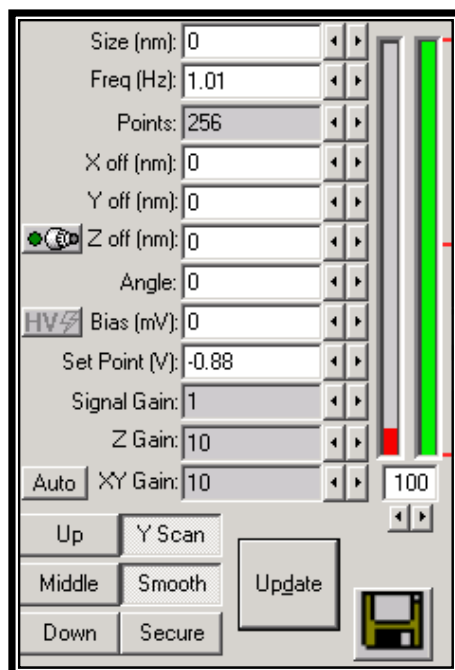
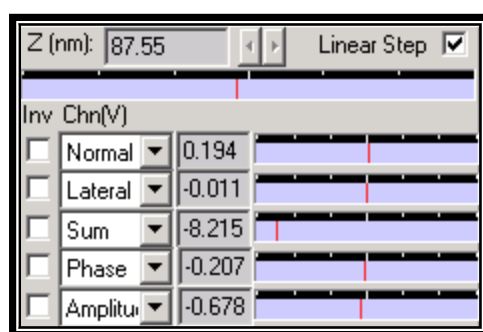
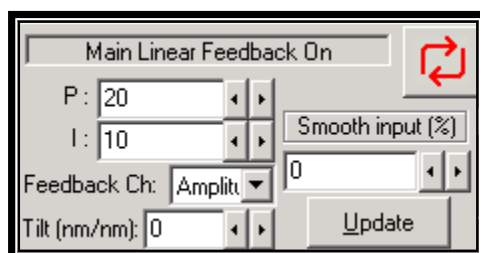

Fig. 4.27
Fig. 4.29
Fig. 4.30
14. In the Control Menu (see Fig. 4.27. This menu is usually already opened, button ) , insert the scanning Frequency (Freq (Hz)) and the Number of Points in one scan line.
Wait a few seconds to give time for the system to change into Dynamic Mode, and press Update in the Control Menu. Then the values of the different channels will be updated in the Channels Values Menu. This menu is usually already opened. If not, you can see it by pressing  (see Fig. 4.29).
- The Set Point value in the Control Menu (Fig. 4.27) will be used by the feedback system to control the tip-sample distance. In Dynamic Mode, the feedback channel is the Amplitude of the cantilever oscillation, CH15 (you can see it in the Feedback Menu, Fig. 4.30). The system keeps it constant, by comparing the Set Point value with the value from CH15 (you can see it in the Channels Values Menu, Fig. 4.29), changing the tip-sample distance to keep the Amplitude constant.
To set an initial value for the Set Point, before approaching, check the Amplitude value (channel 15, CH15) in the Channels Values Menu (see Fig. 4.29).
16. In the Feedback Menu (see Fig. 4.30. This menu is usually already opened, button ). Insert feedback parameters P and I (Proportional-Integral). As a general rule, **take P = 20 and I = 10 as initial values.**
To do it by software, take a look to the Z values, on the top of the Channels Values Menu (see Fig. 4.29). This value is telling you the Z off in nm. Just add that number to your Z off and the green bar will be centered. As a general rule, anytime you want to center it, add the value you see in the Channels Values Menu to the current value placed in the Zoff dialog.
The Set Point value will be used by the feedback system to control the tip-sample distance. In Contact Mode, the feedback channel is the Normal Force, CH1 (you can see it in the Feedback Menu, Fig. 4.30). The system keeps it constant, comparing the Set Point value with the Normal Force value from CH1 (you can see it in the Channels Values Menu, Fig. 4.29), changing the tip-sample distance to keep the Normal Force constant.
To set an initial value for the Set Point, before approaching, check the Normal Force value (channel 1, CH1) in the Channels Values Menu (see Fig. 4.29). Since you have tuned the photodiode in the Photodiode Menu, making the red and the green crosses coincide, the Normal Force and the Lateral Force should be  $\approx$  0. Place the **initial Set Point around 0.2-0.4 V**, as shown in the next figure:
You can see the values of the different channels in the Channels Values Menu (see Fig. 4.29).
If the piezo is fully-retracted (check the vertical green bar shown in the Control Menu and in the Approach Menu, this represents the Z-piezo displacement. If the piezo is fully retracted, there will be no green bar. Also there will be no evident variations in the Fwd/Bck traces), check the Normal Force value (CH1) in the Channels Values Menu (see Fig. 4.29). You should find that the CH1 value is higher than the Set Point, which is why the piezo has retracted. You must enter a Set Point a bit higher than the CH1 value (for example, if  $CH1 = 0.6 \text{ V}$ , you could enter  $\approx 0.65\text{-}0.70 \text{ V}$ ). The piezo will extend and you the situation will be covered by the above discussion - either the piezo will or will not be fully-extended. Follow the suitable instructions given above, depending on the system state.